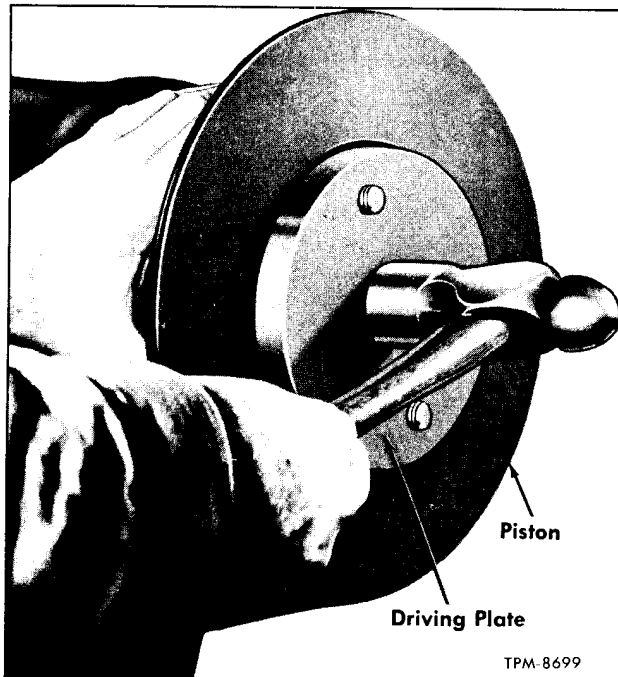

Figure 18—Removing Lower Retainer From Piston
4. In many instances it will be necessary to drive lower retainer out of piston. A locally made driving plate installed over end of retainer will prevent damage to retainer as it is driven from piston, as illustrated in figure 18.